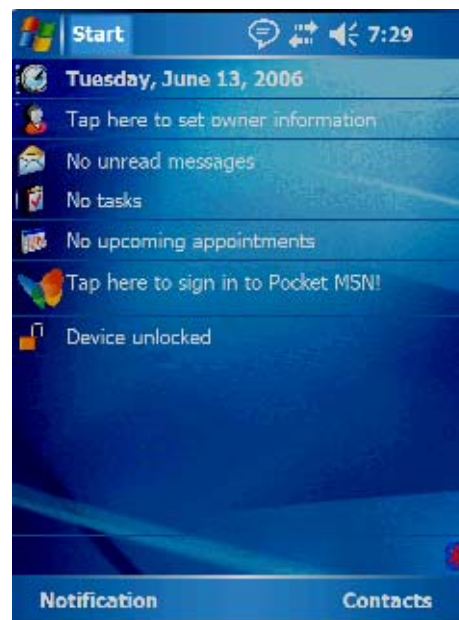

Figure 29: Pocket PC Start screen, showing the Start button
1. From the Pocket PC start screen, tap **Start** in the top left corner (Figure 29). The Start pop-up menu appears.